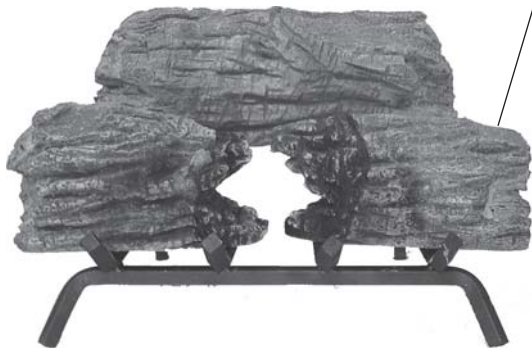

Figure 14 - Placing Front Right Log (#3)
4. Place front right log #3 on the front of the grate and to the right. *See Figure 14.*